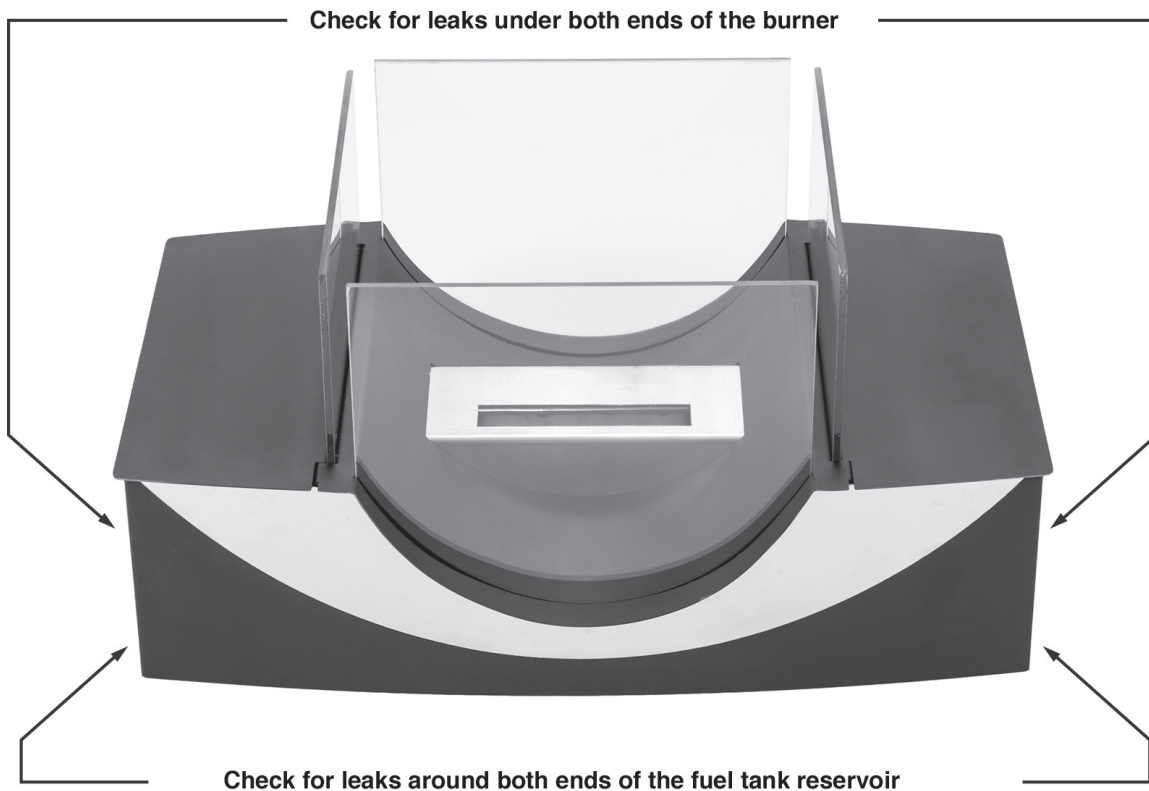

Figure 10
NOTE: Before burning the appliance for the first time, install a canister of duraflame® illuma-fuel®, let the fuel sit in the burner for five minutes, and check to ensure there aren't any leaks below and around the front appliance (see Figure 10).
6. Check for leaks by installing a fuel canister into the appliance and letting it sit for five minutes. Check for leaks in the areas shown in Figure 10 before igniting the fuel.